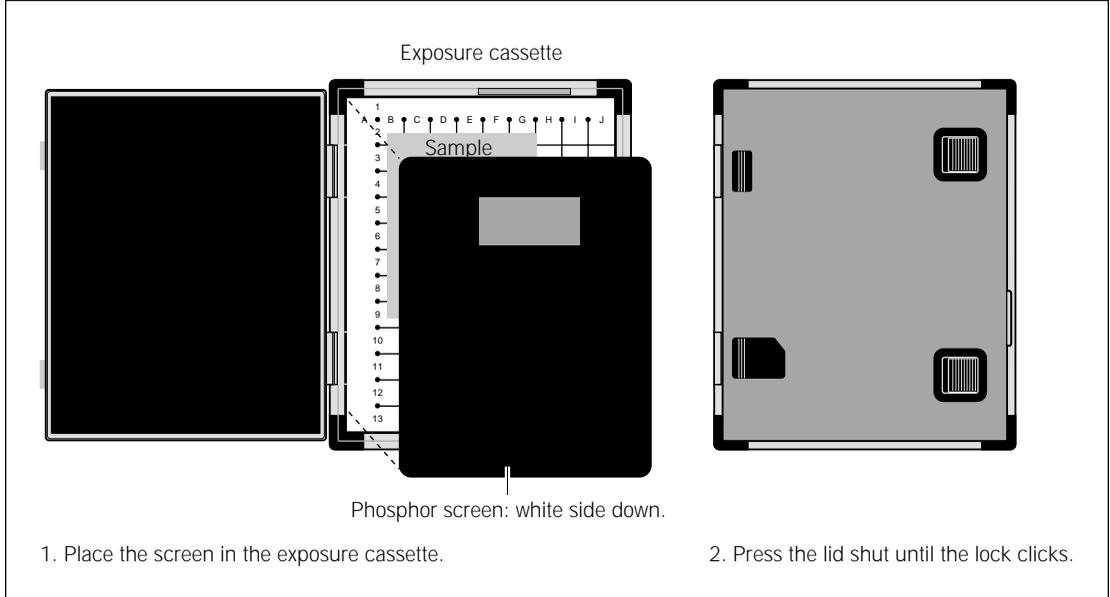

Figure 5-5. Loading an unmounted screen into the exposure cassette.
3. Gently lower the screen into place over the grid area in the cassette. The screen should be centered over the grid area and should lie straight and flat in the cassette (figure 5-5).